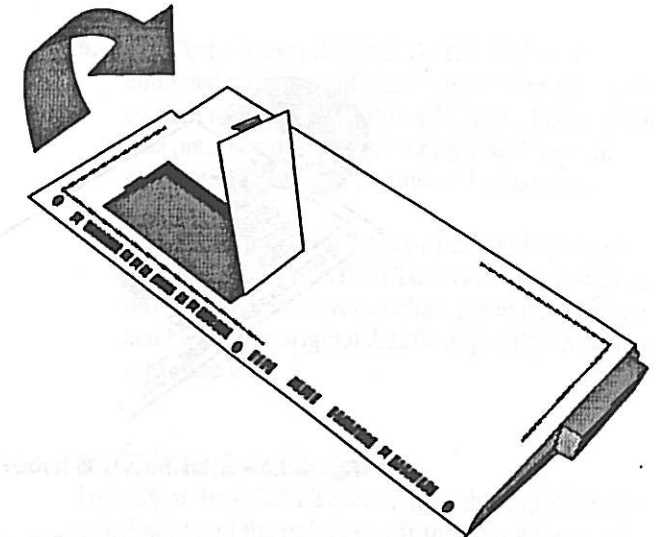

Figure 1.1 – Removing the expansion bay cover.
2. Remove the trap-door cover by inserting a coin in the slot at one end, prying the cover up and swinging it away (see *Figure 1.1*).